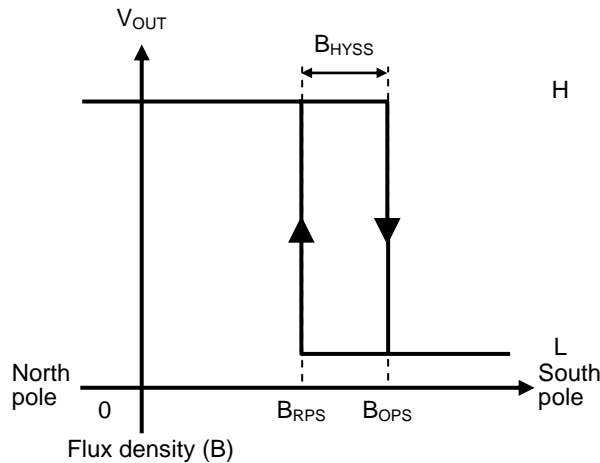

**Figure 16**
**Figure 16** shows the relationship between the magnetic density and  $V_{OUT}$ .